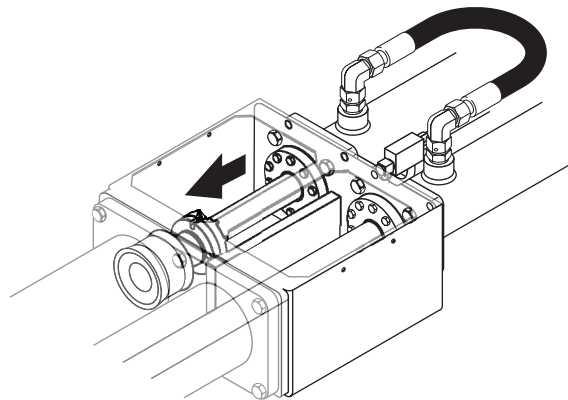

Figure 29
4. Restart the engine and clear all E-stops. Press the concrete pump forward or reverse button and Ram Change Mode button simultaneously. Slowly extend the cylinder until the ram is installed in the material cylinder, but the mounting flange is still exposed enough to remove the nut and bolt (Figure 29). When in position, release the concrete pump forward/reverse or Ram Change button to stop the differential cylinders. Shut off the engine. Remove the nut and bolt.